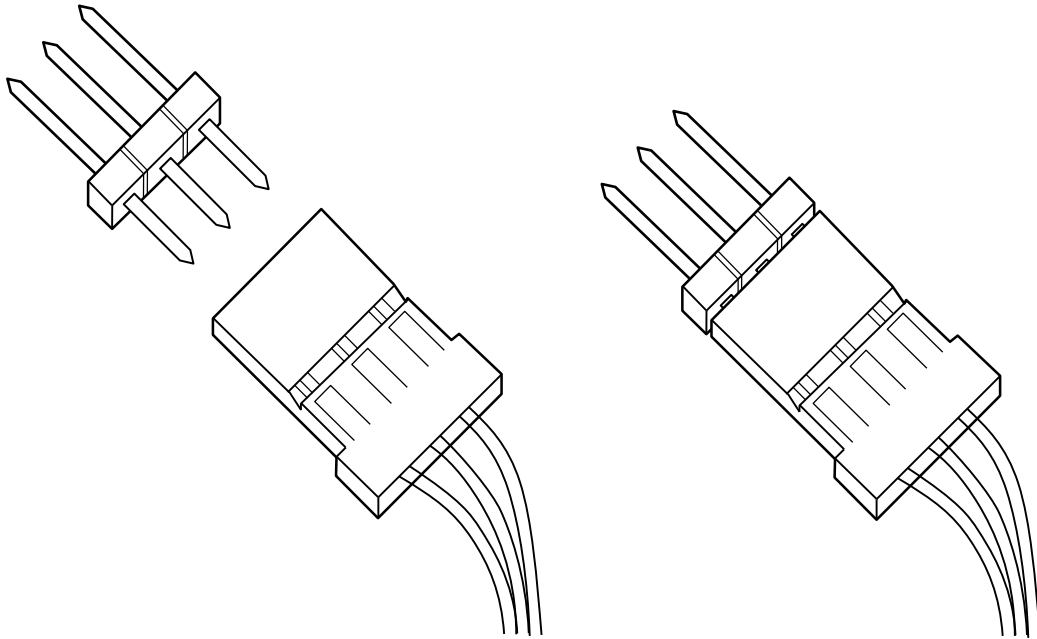

Fig 3. Your servo motor comes with female connectors, so you'll need to add header pins to connect it to the breadboard.
- 4) Insert the male headers into the female socket on the servo motor (see Fig. 3). Connect the red wire to power, and the black wire to ground. Place a 100 μ F electrolytic capacitor across power and ground to smooth out any irregularities in voltage, making sure you have the capacitor's polarity correct. Connect the servo's data wire to pin 9 on your Arduino.